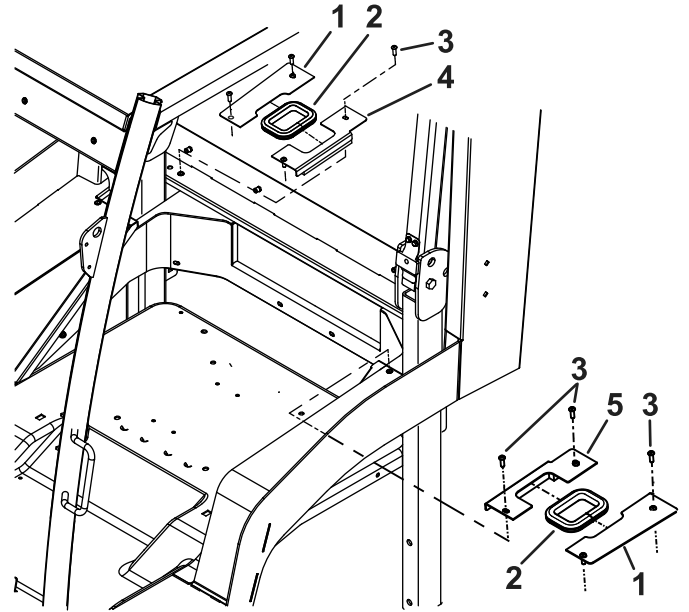

Figure 14
- 9. Install the roll bar seals around each side of the roll bar (Figure 14).
- 10. Install the left cover and 1 retainer cover into the left seal and secure the covers with 4 screws (1/4 x 3/4 inches); refer to Figure 14.
- 11. Install the right cover and 1 retainer cover into the right seal and secure the covers with 4 screws (1/4 x 3/4 inches); refer to Figure 14.